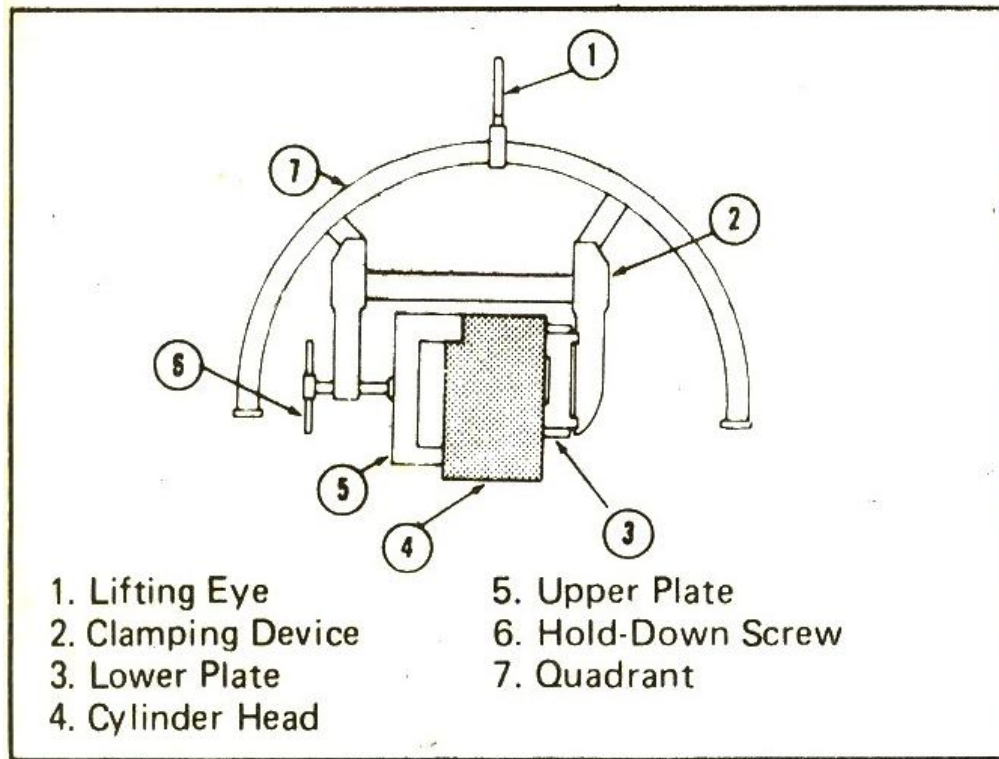

Fig. 2-4, Cylinder head installed in the ST-1012 Hydrostatic Tester
1. Put the cylinder head in the ST-1012 Hydrostatic Tester and 3375070 Adapter Plate (Fig. 2-4).